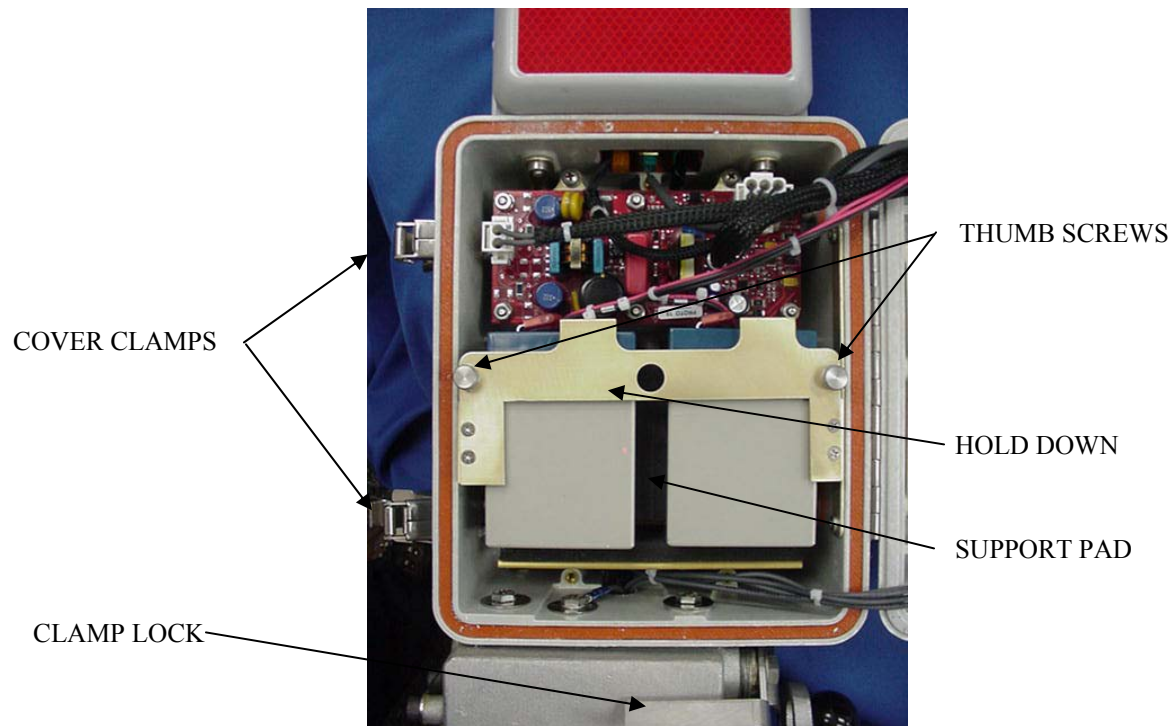

Figure 6
2. Release two (2) COVER CLAMPS. See Figure 6.
3. Open COVER. See Figure 6.
4. Loosen and remove THUMB SCREWS, retain for reinstallation. See Figure 6.
16. Install THUMB SCREWS and fully tighten. See Figure 6.
17. Close COVER assuring that wire harnesses are not pinched between cover and enclosure. See Figure 6.
18. Secure the cover with the two (2) COVER CLAMPS. See Figure 6.